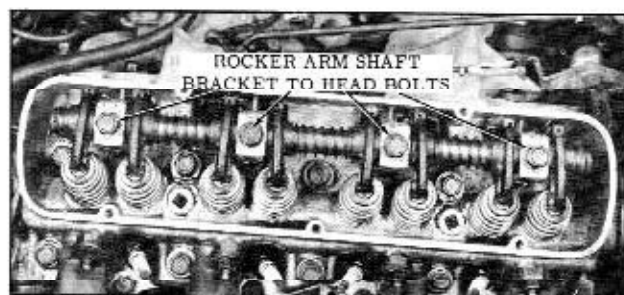

Fig. 8-7 Rocker Arm Assembly Attachment
5. Remove 4 rocker arm shaft bracket to head bolts. (Fig. 8-7)